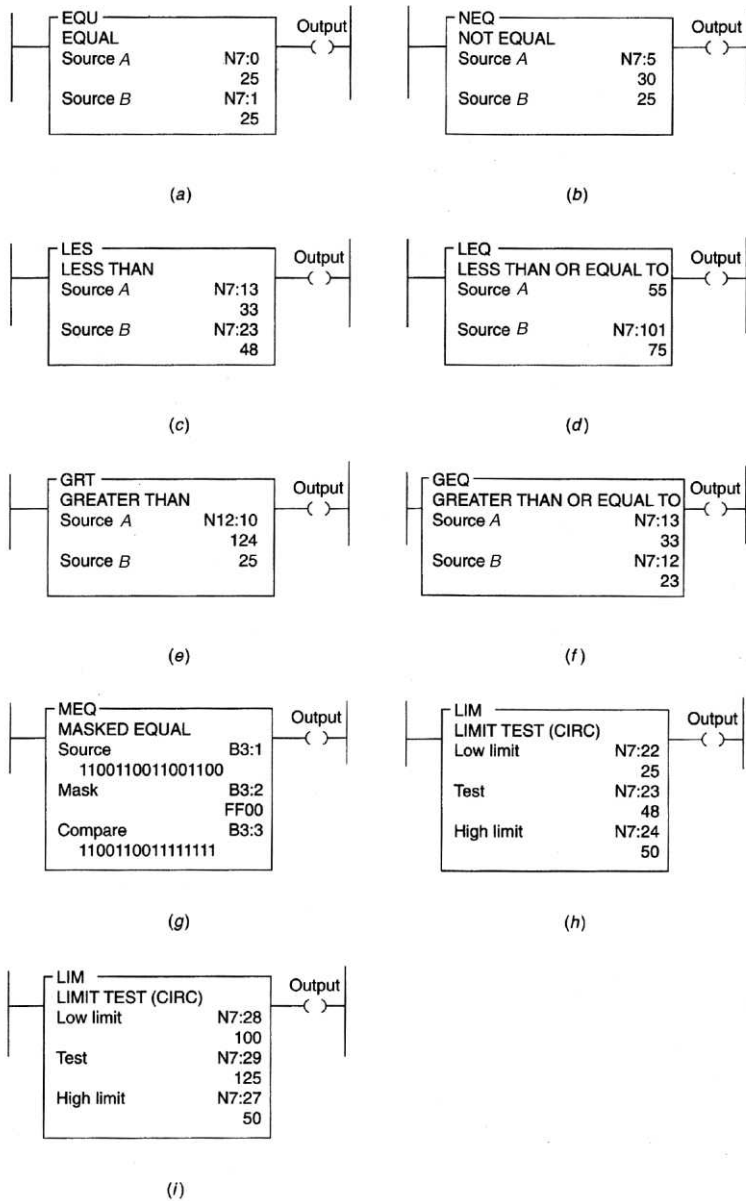

Figure 10-37 Data compare instructions program for assignment 13.
13) Enter each of the data comparison instructions, (a) through (i), shown in Figure 10-37 individually into the PLC, and prove the operation of each.